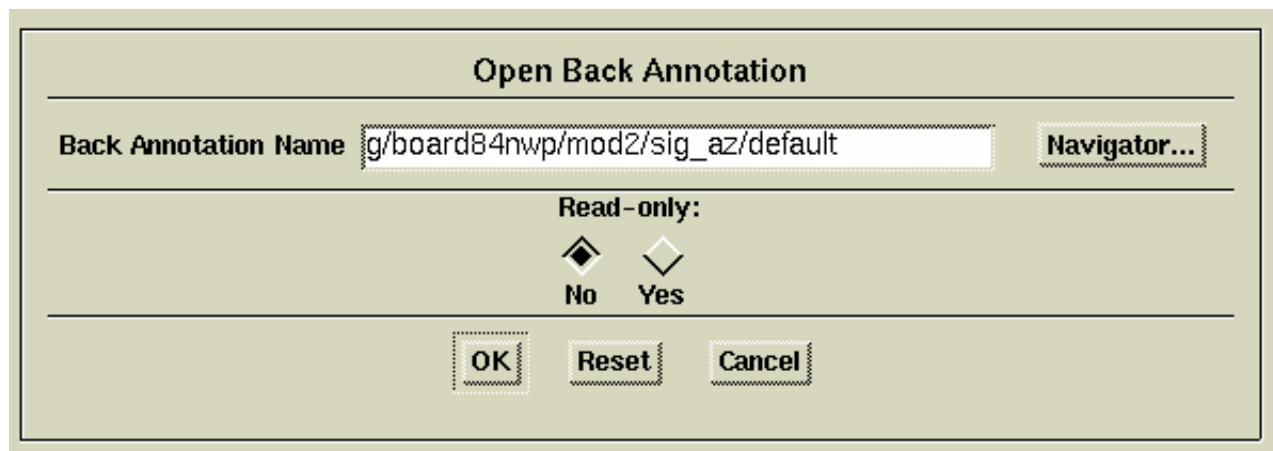

Figure 3-11. Open Back Annotation Dialog Box
8. In the dialog box shown in Figure 3-11, enter *default*, and click **OK**.